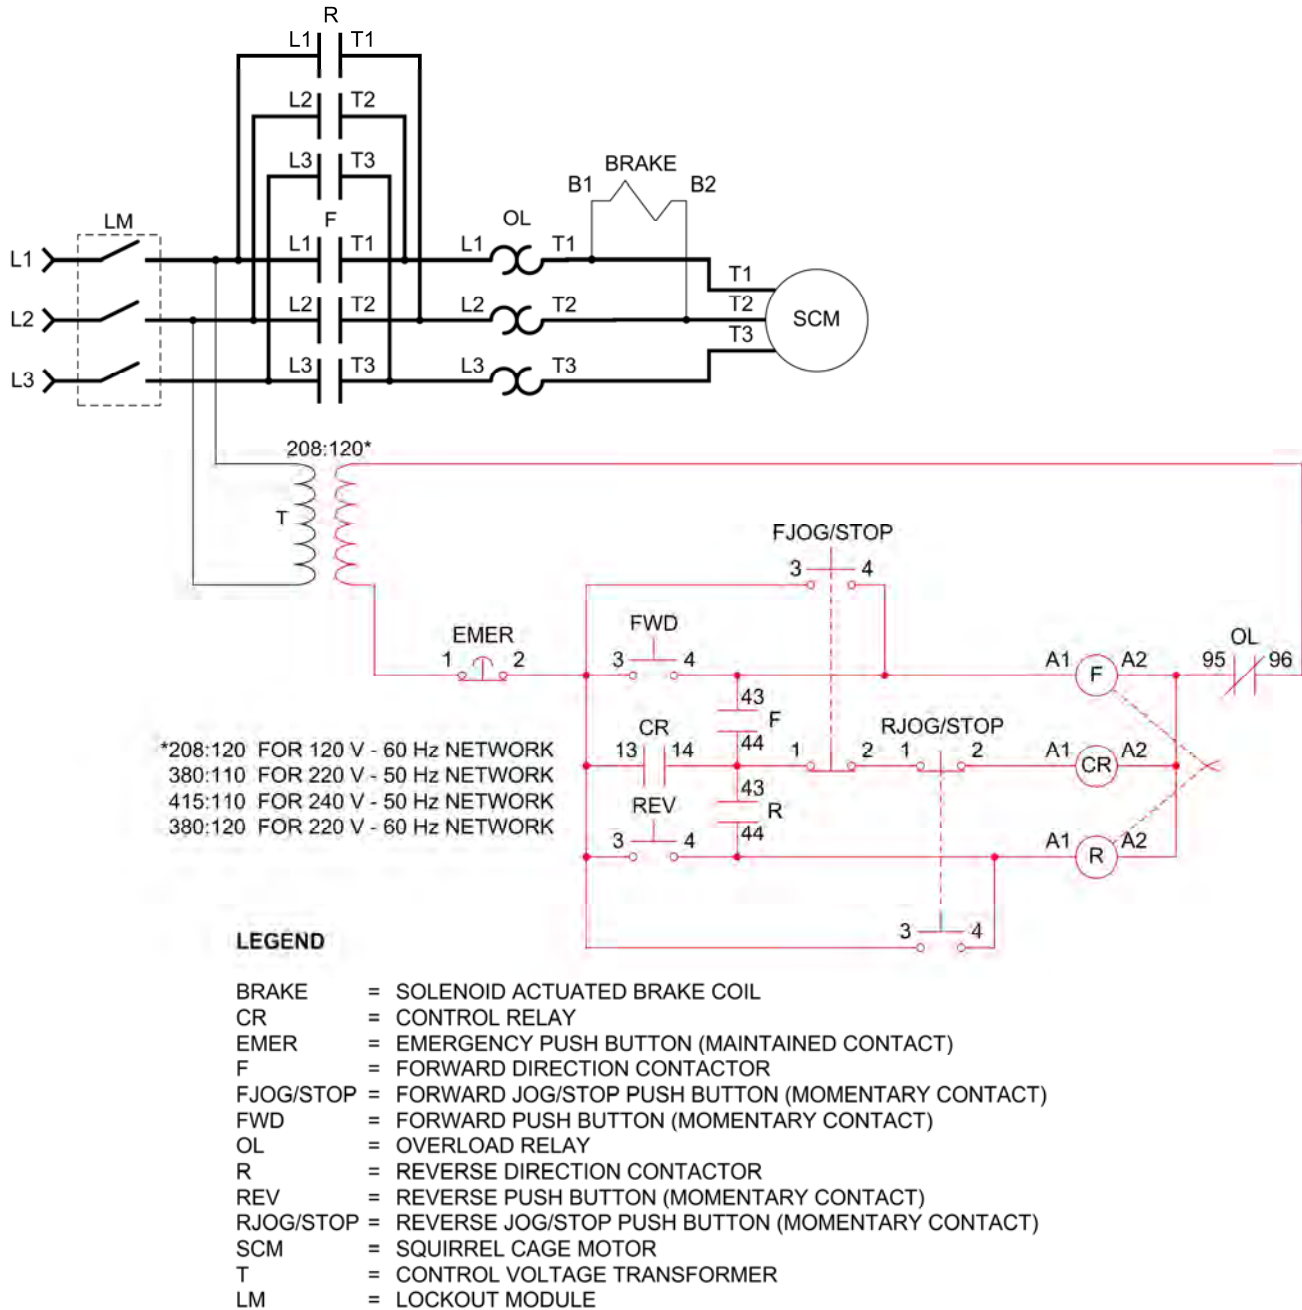
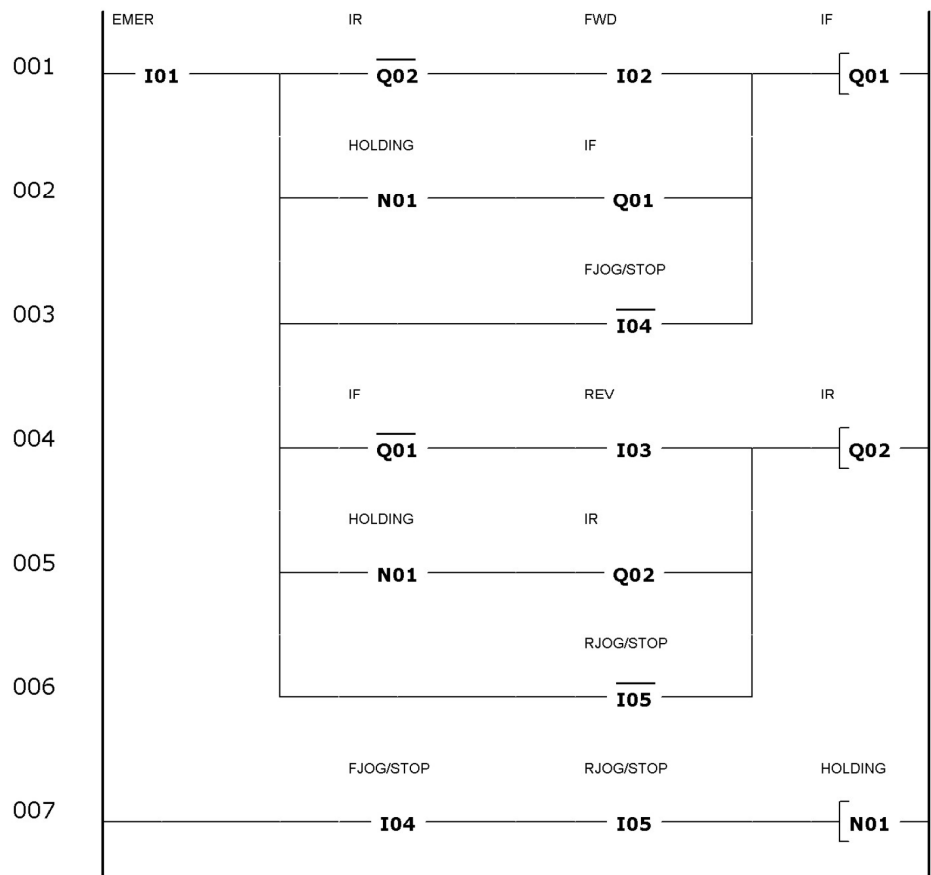

Figure 2-12. Reversing motor starter circuit with jogging.
Figure 2-13. Reversing motor starter with jogging ladder program.
Some applications, in particular in position control, require a motor to run and jog in both forward and reverse directions. To meet these requirements a jogging control circuit with a reversing motor starter can be implemented. Figure 2-12 is an example of a hardwired motor reversing circuit with jogging. This setup includes a control relay to form the holding circuits.
In this exercise, you will set up a PLC motor reversing circuit with jogging capabilities. You will test that the ladder program, shown in Figure 2-13, functions like the hardwired circuit in Figure 2-12.
Enter the ladder program shown in Figure 2-13.
- 5. Test the PLC circuit and note in Table 2-1 if it has the same characteristics as the hardwired version in Figure 2-12.
1. Which PLC programming unit in Figure 2-13 is logically equivalent to the control relay in Figure 2-12?